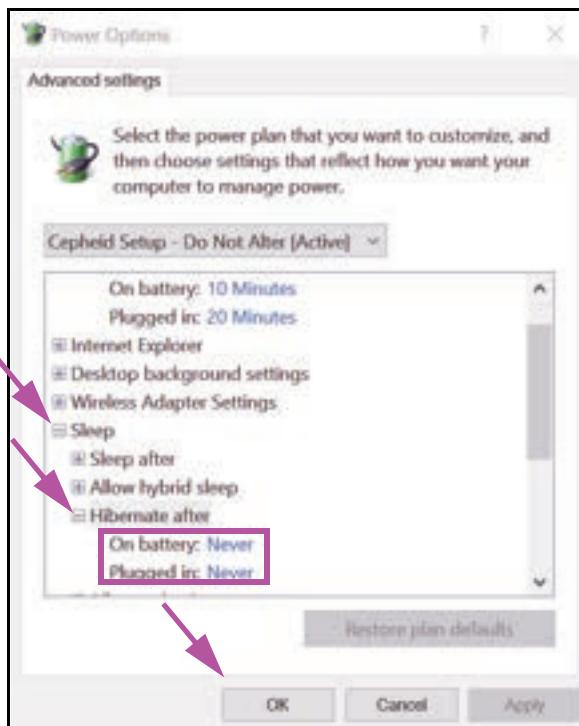
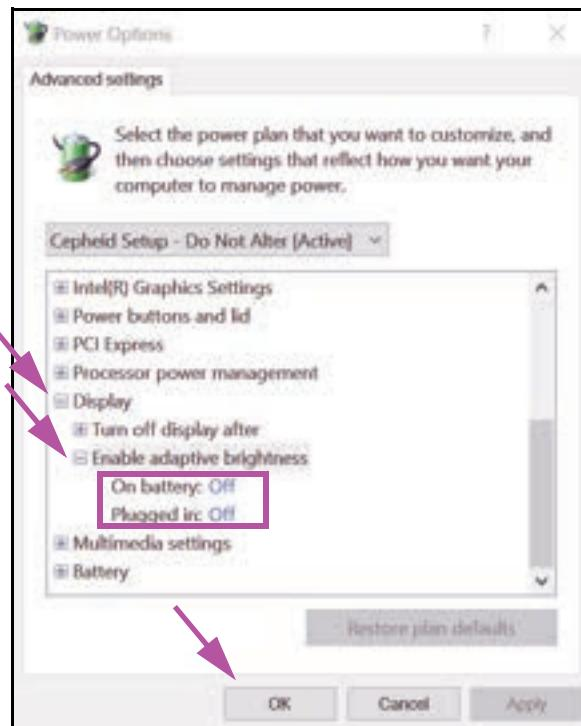

Figure 2-27. Power Options—Advanced settings Window (Sleep)
Figure 2-28. Power Options—Advanced settings Window (Display)
5. Click **Change advanced power settings** (see Figure 2-26). The Power Options Advanced settings window appears. See Figure 2-27.
6. In the Power Options Advanced settings window, double-click **Sleep** to expand the view, and then double-click **Hibernate after**. See Figure 2-27.
- A. **Desktop Computers:** Verify that **Setting** value is set to zero (0) or **Never**. If not, change the **Setting** value to zero (0) or **Never**.
- B. **Laptops Only:** Verify **On battery** and **Plugged in** values are set to **Never**. If not, click **On battery** and/or **Plugged in**, and then use the up/down arrow keys to set their values to zero (0) on the selectable option.
7. In the Power Options Advanced settings window, double-click **Display** to expand the view, and then double-click **Enable adaptive brightness**. See Figure 2-28.